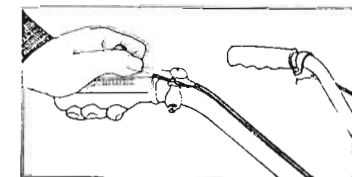

Fig. 5
5. Open throttle control slightly (Fig. 5).